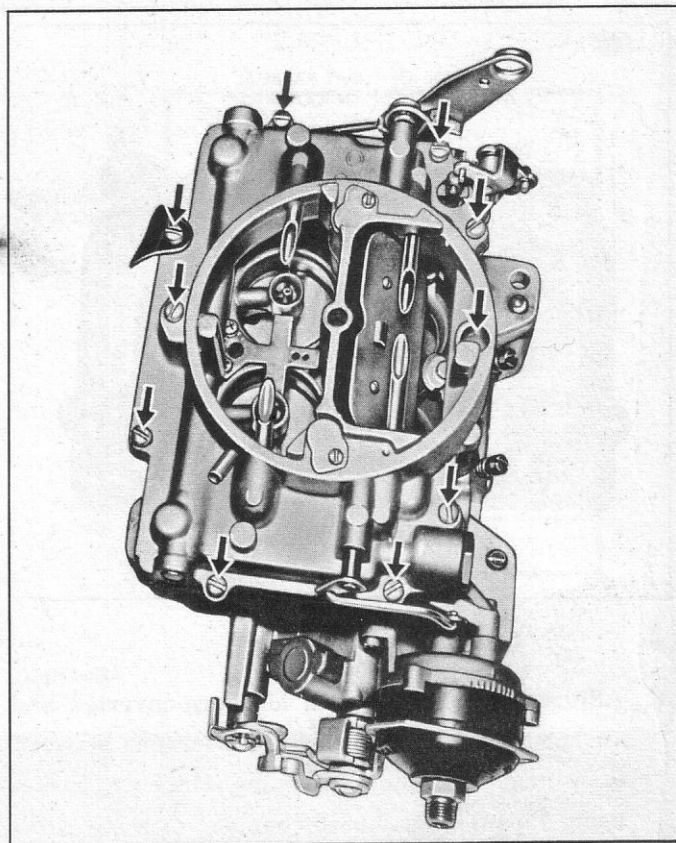

Fig. 96—Bowl Cover Attaching Screws
4. Remove bowl cover attaching screws and carefully remove bowl cover (figs. 96 and 97).